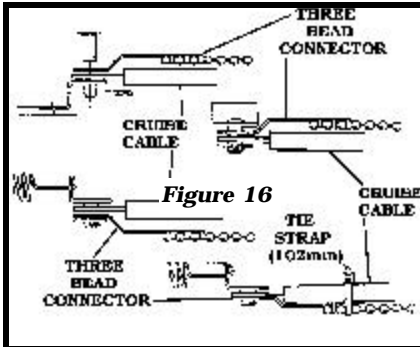

Figure 18
4. The **THREE BEAD CONNECTOR** may need to be bent so that it clears the throttle cable. **Figure 18** Use the **TIE STRAP (102mm)** to hold the **THREE BEAD CONNECTOR** to the sleeve of the throttle cable. **Figure 18**